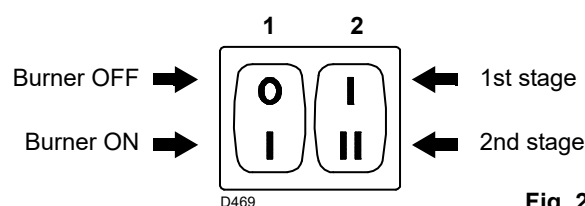

Fig. 29
- switch 1)(Fig. 29) to the "Burner ON" position;
- switch 2)(Fig. 29) to the "1st stage" position.
Turn switch 2)(Fig. 29) to the 2nd stage position: the servomotor will open the air damper and, at the same time, also the gas butterfly valve opens at 90°.